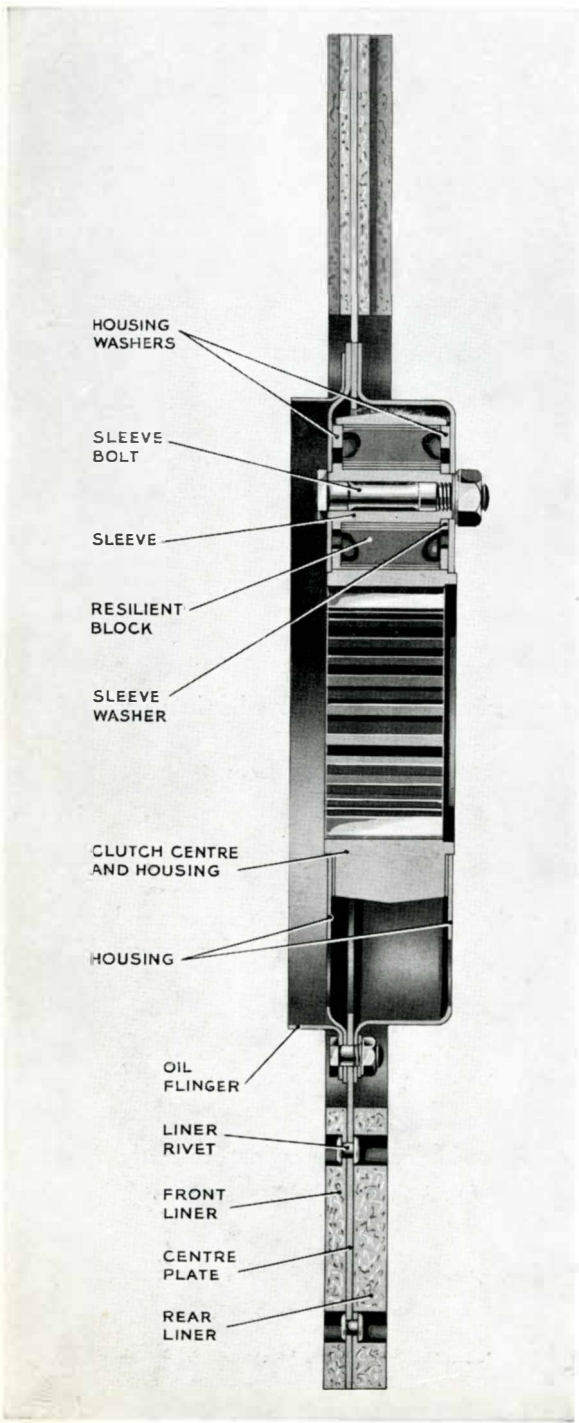

FIG. 6. LAYRUB FLEXIBLE CLUTCH CENTRE
The liners are riveted to a centre plate bolted to the housing enclosing the flexible clutch centre. The centre is shown in Fig. 6 and comprises six resilient blocks pressed into the clutch centre and housing.
5. Replace the flexible centre with the oil flinger on the engine side of the assembly, as shown in Fig. 6.
pressed-steel housing and the oil flinger to the centre plate, see Fig. 6.
4. The centre must be re-assembled exactly as shown in Fig. 6.